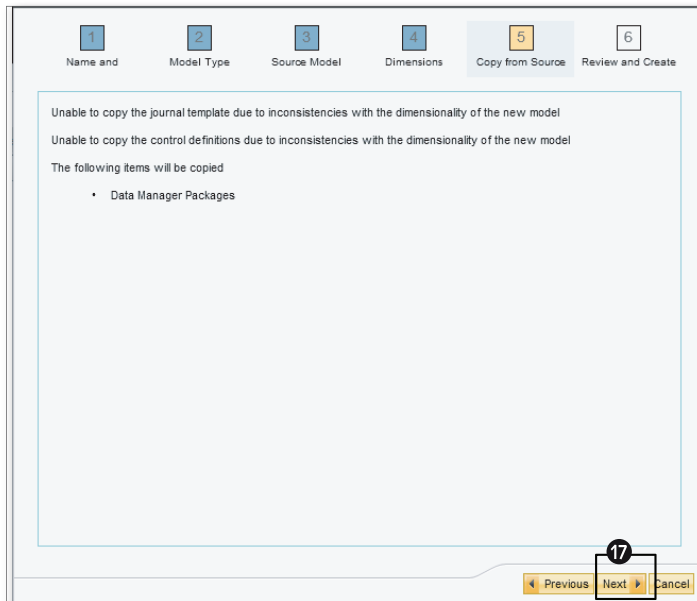

Figure 3.43 Creating a Model—Part G
9. This screen provides information on the objects that will be copied from the source model. This is applicable only if an existing model was selected as the basis for creating the new model. Select NEXT (Figure 3.43, 17).